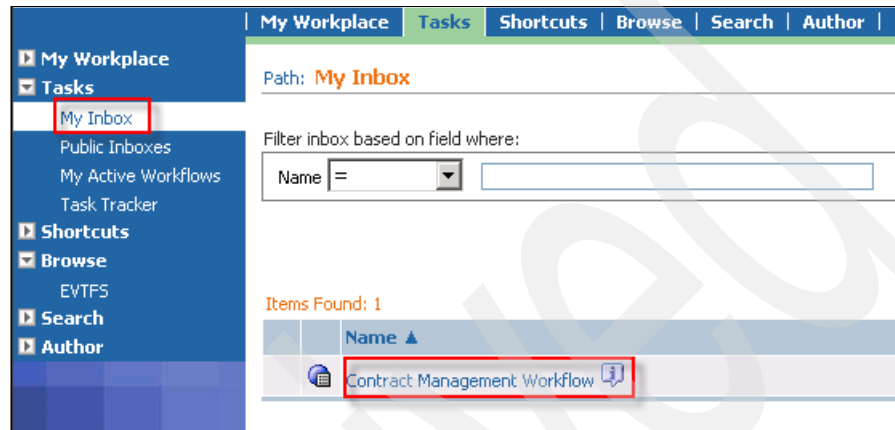

Figure 7-66 My Inbox panel
1. As shown in Figure 7-66, select **Tasks** → **My Inbox** and in the right pane, click **Contract Management Workflow**.